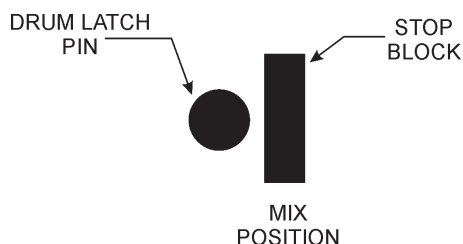

Figure 21. Drum Lock Pin (Left Position)
- When charging, mixing, or dumping a batch of plaster or mortar the **drum lock pin** should be placed to the **left** (when viewing the mixer from the towpole end) of the drum stop block which is welded to the front side of the drum. See Figure 21.